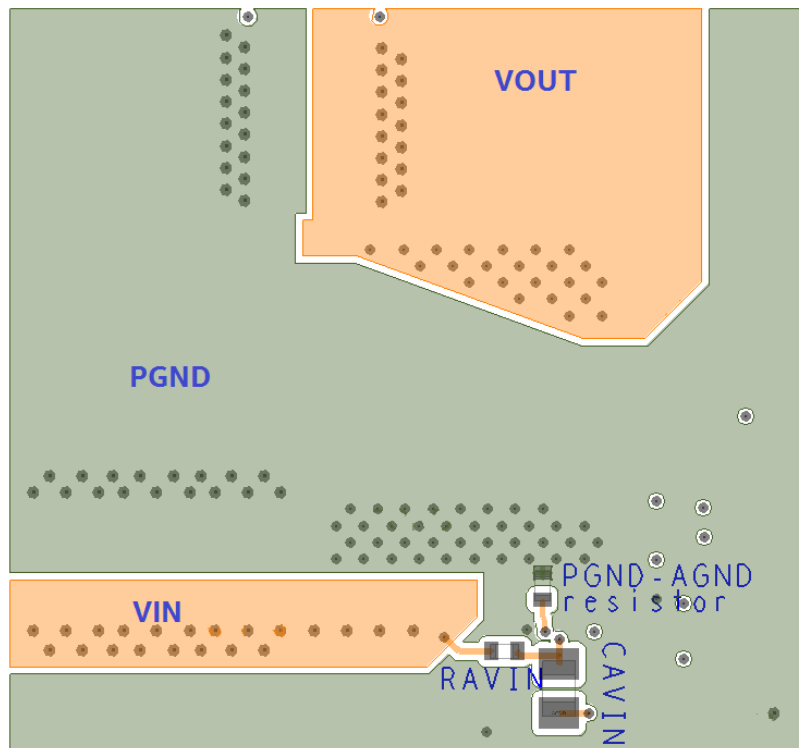

Figure 13: Bottom Layer
**Recommendation 6:** AVIN is the power supply for the internal small-signal control circuits. It should be connected to the input voltage at a quiet point through a RC circuit ( $R_{AVIN}$  and  $C_{AVIN}$ ). In Figure 13 this connection to  $R_{AVIN}$  is made at the input capacitor close to the  $V_{IN}$  connection on the input source side. Avoid connecting AVIN near the PVIN pin even though it is the same node as the input ripple is higher there.